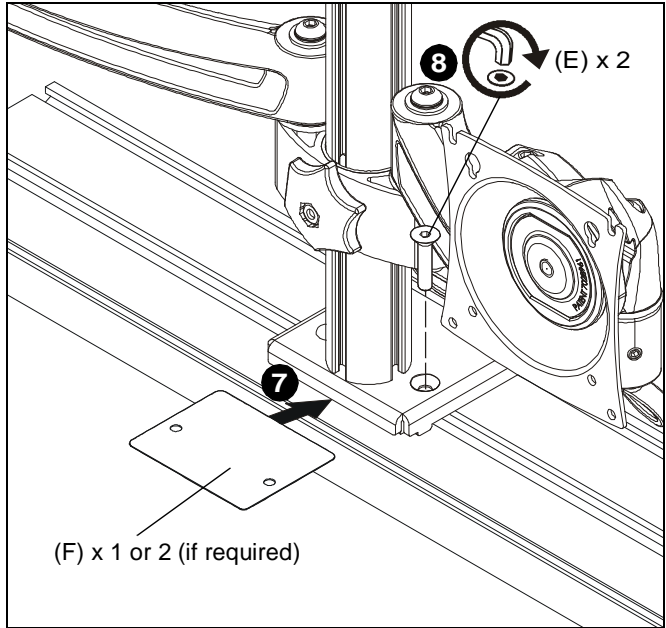

Figure 5
6. Remove two #10-32 x 7/8" flat head cap screws (E) holding cover plate (A) to channel plate (C).
7. Slide one or two shims (F) in between cover plate (A) and rail, lining up holes on shim(s) with holes on plate and rail. (See Figure 5)
8. Use two #10-32 x 7/8" flat head cap screws (E) to reinstall cover plate (A) to channel plate (C). (See Figure 5)